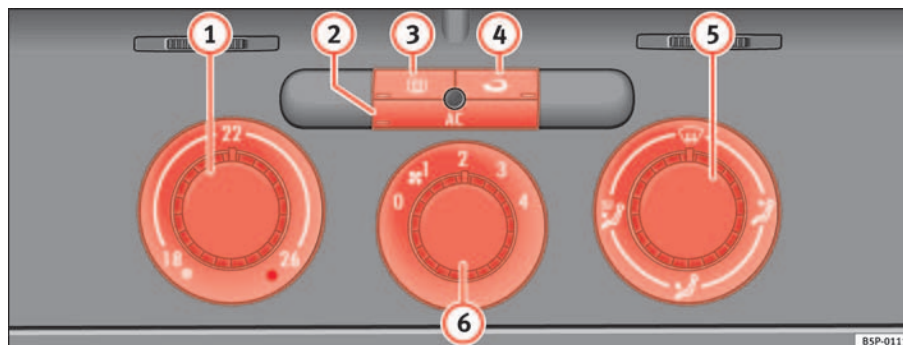

Fig. 123 On the dash panel: Climatic controls
- Using the controls ⇒ fig. 123 ① and ⑤ and the control ⑥ you can set the temperature, air distribution and the airflow.
- To switch a function on or off, press the appropriate button ②, ③ or ④. When the function is activated, the display window in the lower corner of the button is lit.
- ① Temperature selector ⇒ page 152
- ② Button [AC] – Heating, ventilation and air-conditioning system on/off ⇒ page 152
- ③ Button [REAR] – Rear window heating. The heating will be switched off automatically approximately 20 minutes after switching on. It can also be switched off beforehand by pushing the button.
- ④ Button [RECIRC] – Air recirculation mode ⇒ page 153
- ⑤ Air distribution control ⇒ page 152
- ⑥ Blower switch. There are four speed settings for the airflow. The airflow should always be set at the lowest speed when driving slowly.
- Switch on the air conditioner using the button ⇒ page 151, fig. 123 .